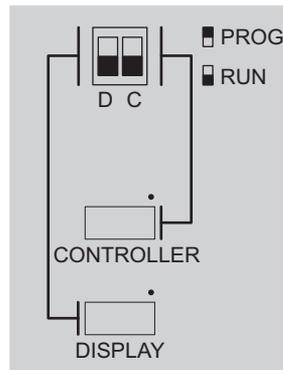

Figure 3-1. Location of Run/Program DIP Switches
Figure 3-1 shows the location of the DIP switches used to set the Run or Program modes.
1. Locate the **Run/Program** DIP switch (see Figure 3-1).